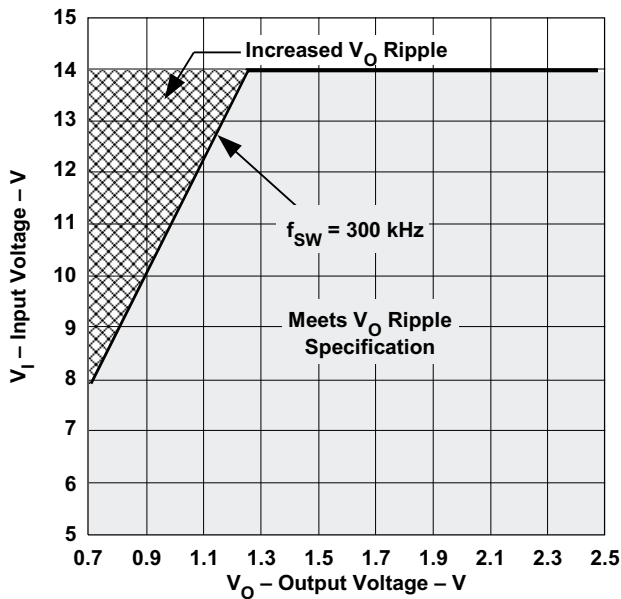
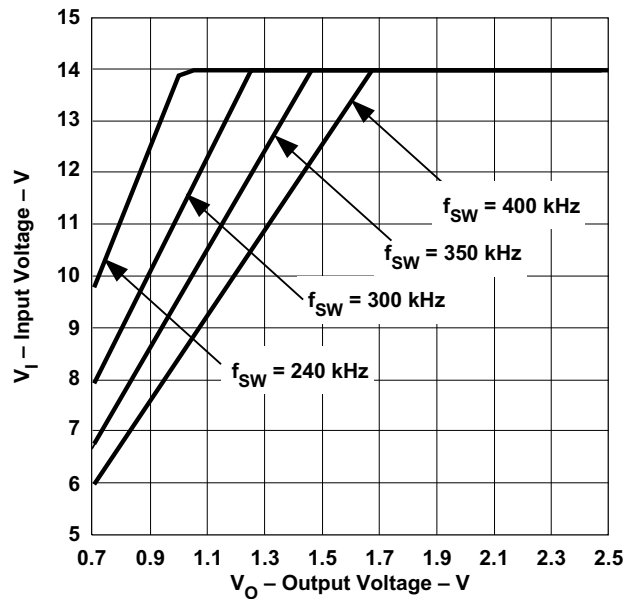

Figure 25.  $V_O$  Ripple Regions at 300 kHz
Figure 26.  $V_O$  Ripple Regions
Synchronizing to a higher frequency and operating with a low duty cycle may impact output voltage ripple. When operating at 300 kHz, Figure 25 shows the operating region where the output voltage ripple meets the electrical specifications and the operating region where the output voltage ripple may increase. Figure 26 shows the operating regions for several switching frequencies. For example, a module operating at 400 kHz and an output voltage of 1.2 V, the maximum input voltage that meets the output voltage ripple specification is 10 V. Exceeding 10 V may cause in an increase in output voltage ripple. As shown in Figure 26, operating below 6 V allows operation down to the minimum output voltage over the entire synchronization frequency range without affecting the output voltage ripple. See the ELECTRICAL CHARACTERISTICS table for the synchronization frequency range limits.
- A. For Figure 25, operation above a given curve may cause the output voltage ripple to increase (typically  $2\times$ ).
- B. For Figure 25, when operating at the nominal switching frequency refer to the 300 kHz plot.